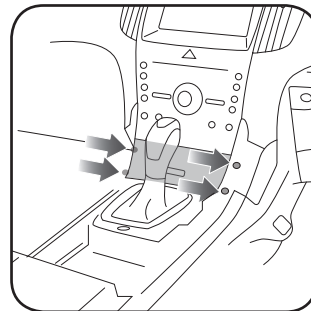

Fig. 1.3
3. Remove four (4) 5.5mm screws holding storage compartment in front of the center console. Remove and unplug it. (Fig. 1.3)